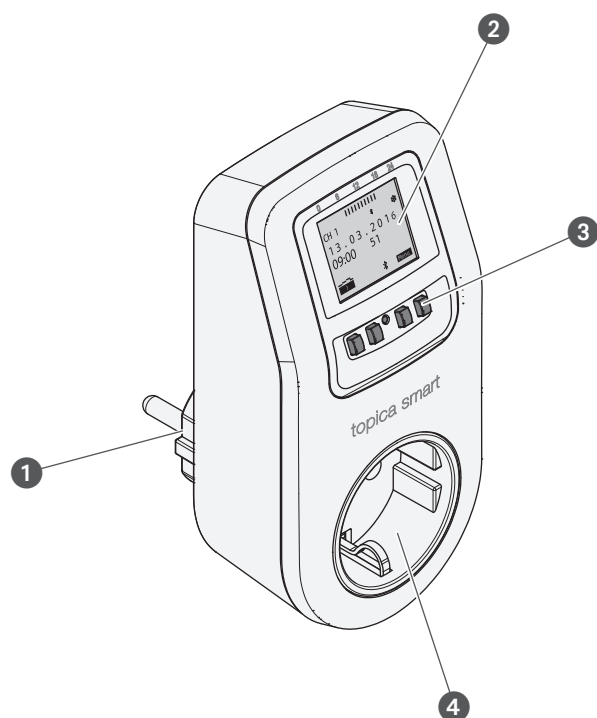

Fig. 1: Plug-in timer
The plug-in timer is a timer that is plugged into a mains outlet with the mains plug (Fig. 1/①). The device plugged into the socket (Fig. 1/④) is activated. The plug-in timer can be operated via a display (Fig. 1/②) with four control buttons (Fig. 1/③). The plug-in timer can be programmed manually or via a mobile device. The mobile device and plug-in timer are connected with one another via Bluetooth.